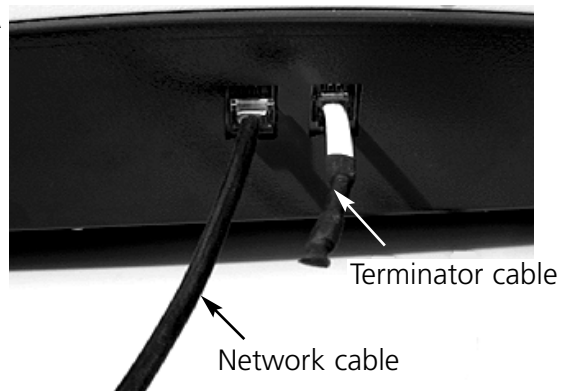

Figure 1-1
4. Connect the peripheral to your controller or host computer using the network cable. Plug the network cable into **either** of the network ports, as shown in Figure 1-1. Plug the terminator cable into the other network connector. It does not matter which cable is plugged into which connector.